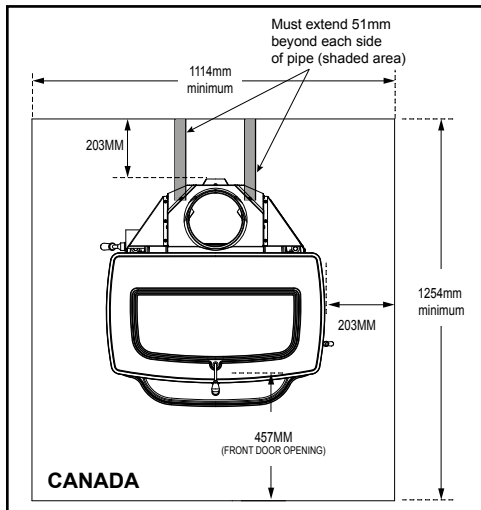

Figure 3.7
***EXCEPTION:** Non-combustible floor protections must extend beneath the flue pipe when installed with horizontal venting and extend 2" (51 mm) beyond each side, Figure 3.7.